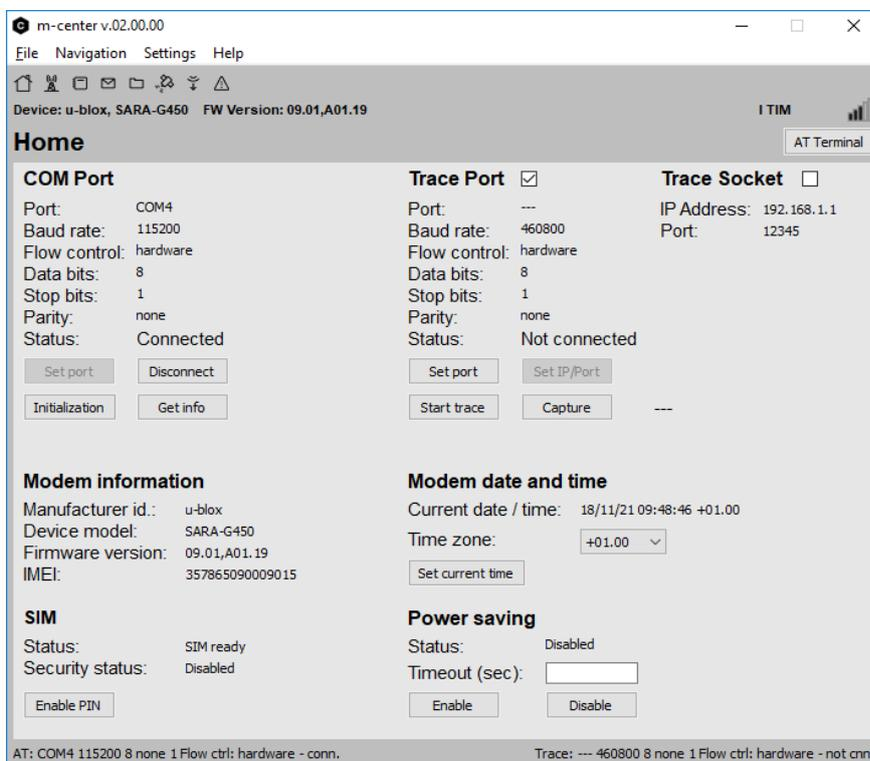

Figure 10: m-center Home page
2. Run the m-center tool: after the m-center start-up, the **Home** page appears, as shown in Figure 10.